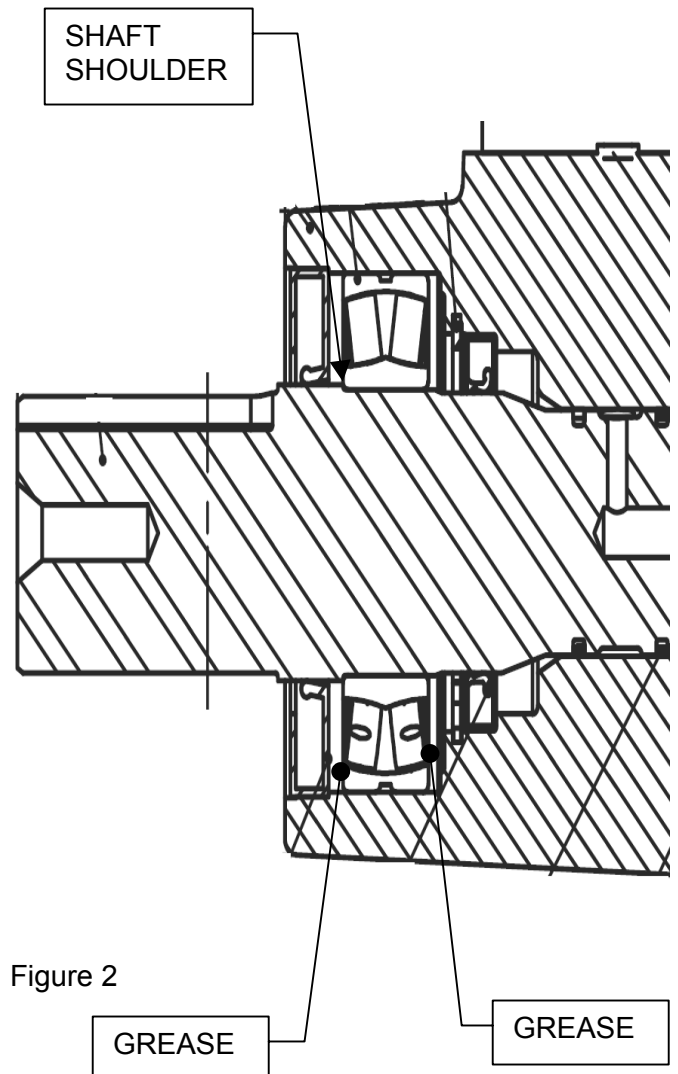

Figure 2
1. Using bearing heater, heat I.D. of bearing (Item 11) to 250 °F. Using protective gloves, slide bearing onto shaft (Item 7) until bearing contacts the shoulder on the shaft. *See Figure 2.*
2. Pack end of endcover with the retaining ring with **Pennzlobe EM grease only** to 20% capacity on outer diameter. See figure 2 for location where grease should be packed during this step.